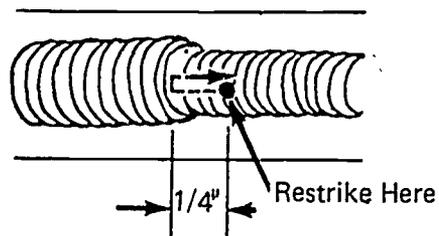

FIGURE 9
- M. If welding is interrupted, restrike arc 1/4" beyond end of bead; move back to bead and continue welding (Figure 9)